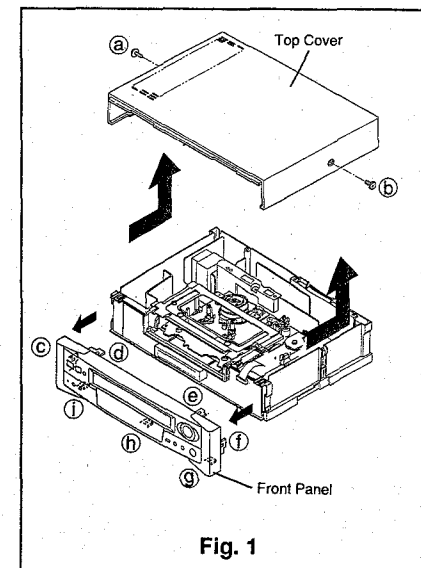

Fig. 1
- ① Remove the two Top Cover fastening screws (a and b) shown in Fig. 1 and remove the Top Cover in the direction shown by the arrows.
- ① Remove the Top Cover.